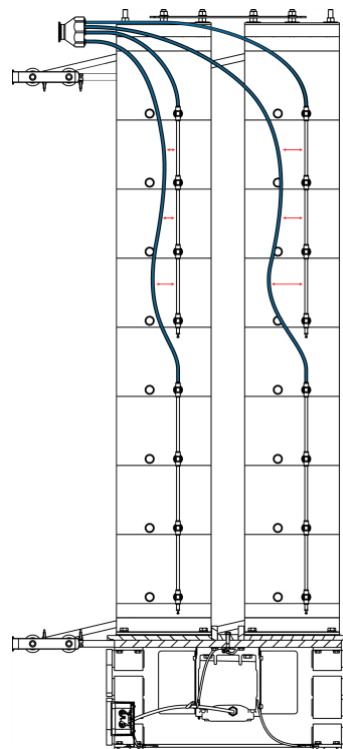

Figure 3
9. To prevent the PU tubing from moving around during vibrations; Use cable ties to fix the free lengths of tubing from the lower permeate lines to the upper permeate line (Figure 3, red arrows), and collect the 4 (40 m²) or 8 tubings (80 m²) to form a bundle at the top.